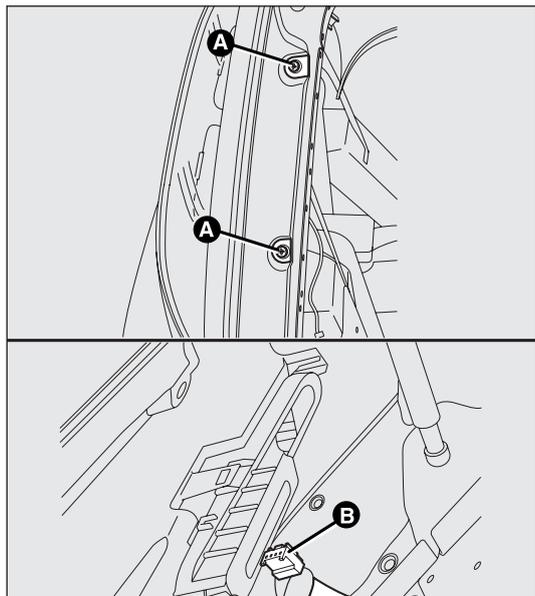

fig. 174
The bulbs are arranged inside the light cluster fig. 174 as follows:
- undo both fastening bolts A-fig 174;